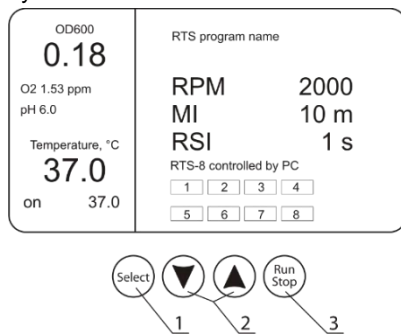

Figure 2. Control panel
7.5.1 Press the **Select** key (fig. 2/1) to activate the possibility to change to an individual channel or to a parameter (the channel box or parameter will be highlighted and blinking). Selected channel box will remain blinking all the time while the device is on. Indications of colours of boxes are the following:
7.5.2 Use ▲ and ▼ keys (fig. 2/2) to change to an individual channel or set the necessary value (the box will be highlighted and blinking).
7.5.4 Press the **Run Stop** key (fig. 2/3) to start and stop operation.